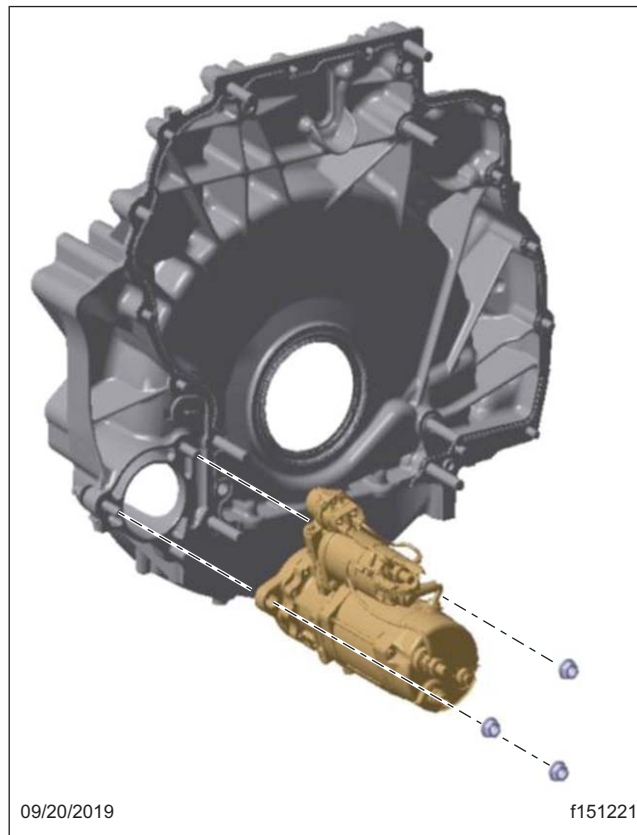

Fig. 2, Removing the Starter
5. Remove the starter, with the battery cables attached, from the flywheel housing to gain access to the flex plate access plug. See Fig. 2.